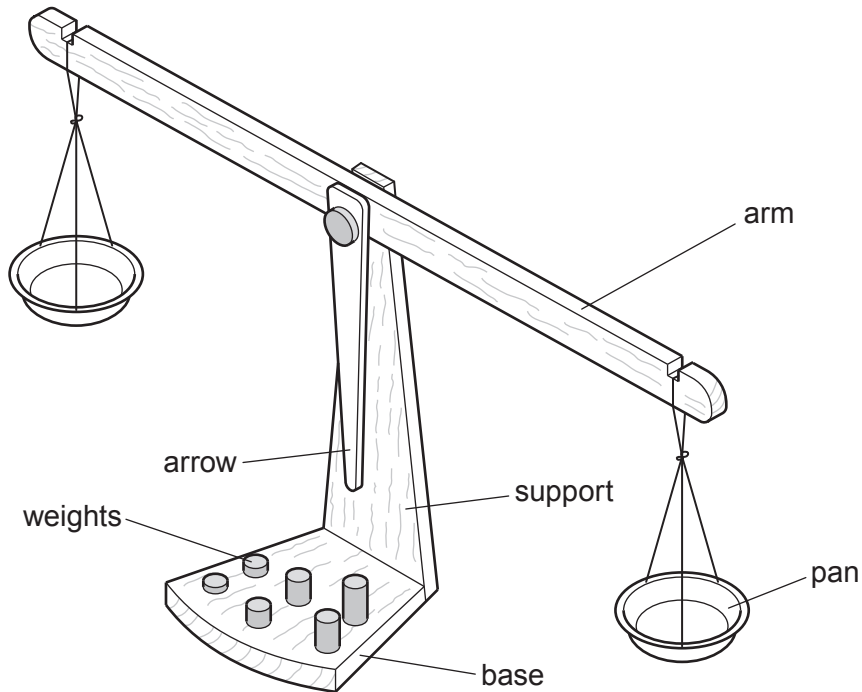

Fig. 11.1
- 11 Fig. 11.1 shows a balance that will be used by young children. The balance will be made in a school workshop.